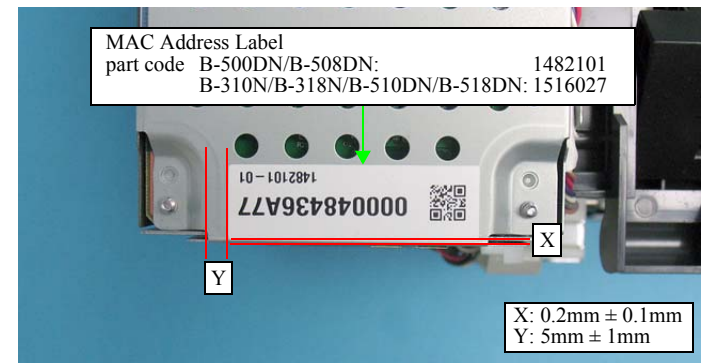

Figure 4-52. MAC Address Label Position
- For B-500DN/B-508DN/B-310N/B-318N/B-510DN/B-518DN, MAC address setting is required after replacing the Network Board. In the following cases, attach the MAC Address Label to the position shown in Figure.4-52, and make the MAC address setting as described in 5.2.9 "MAC Address Setting \(B-500DN/B-508DN/B-310N/B-318N/B-510DN/B-518DN only\)" \(p.185\).